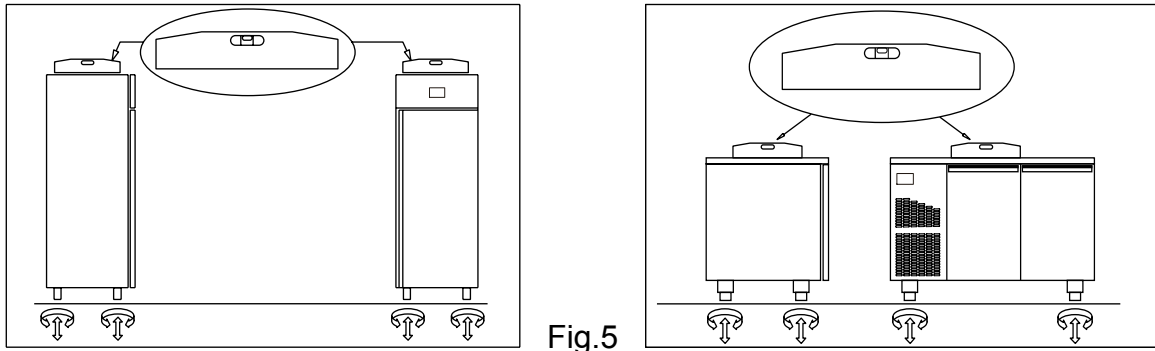

Fig.5
- position the retarder-proofer/dough retarder refrigerated cabinet and refrigerated table using a level with possible adjustment of the feet of the metal base (Fig. 5 )